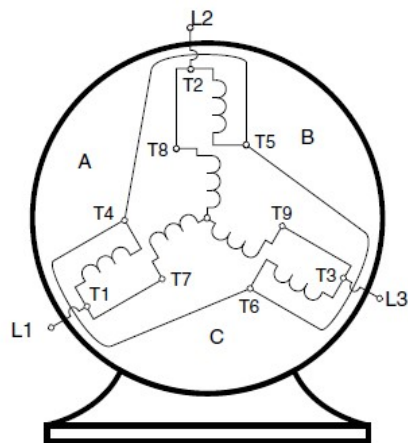

Figure 2: Three phase motor electrical connections diagram
4. Wire the motor windings together in the three phase configuration as shown in Figure 2. This puts the dual voltage motor leads in parallel for the low voltage connections: L1, L2, & L3 will be the feed lines.